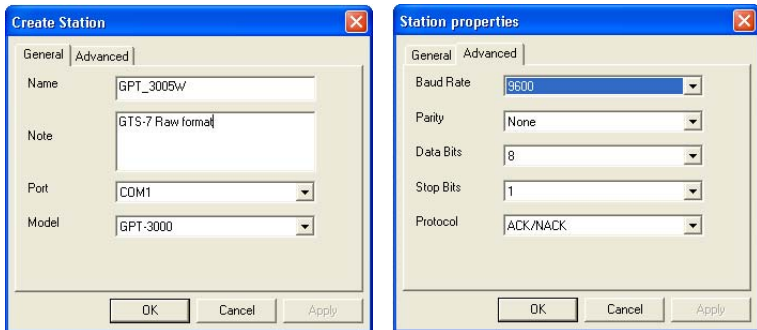

Figure 3-30. Total Station Properties
- On the *General* tab of **Create Sokkia receiver** dialog box, enter *Name*, *Notes*, the *Port* the device connects to, *Baud Rate* and the *Device*. On the *Advanced* tab, enter the *Parity*, *Byte size*, *Stop Bits*, and/or *Handshake* used for communication (Figure 3-30).
4. On the *General* tab, enter *Name*, *Notes*, the *Port* the device connects to, and the *Model*. On the *Advanced* tab, enter the *Baud Rate*, *Parity*, *Data Bits*, *Stop Bits*, and/or *Protocol* used for communication (Figure 3-30).